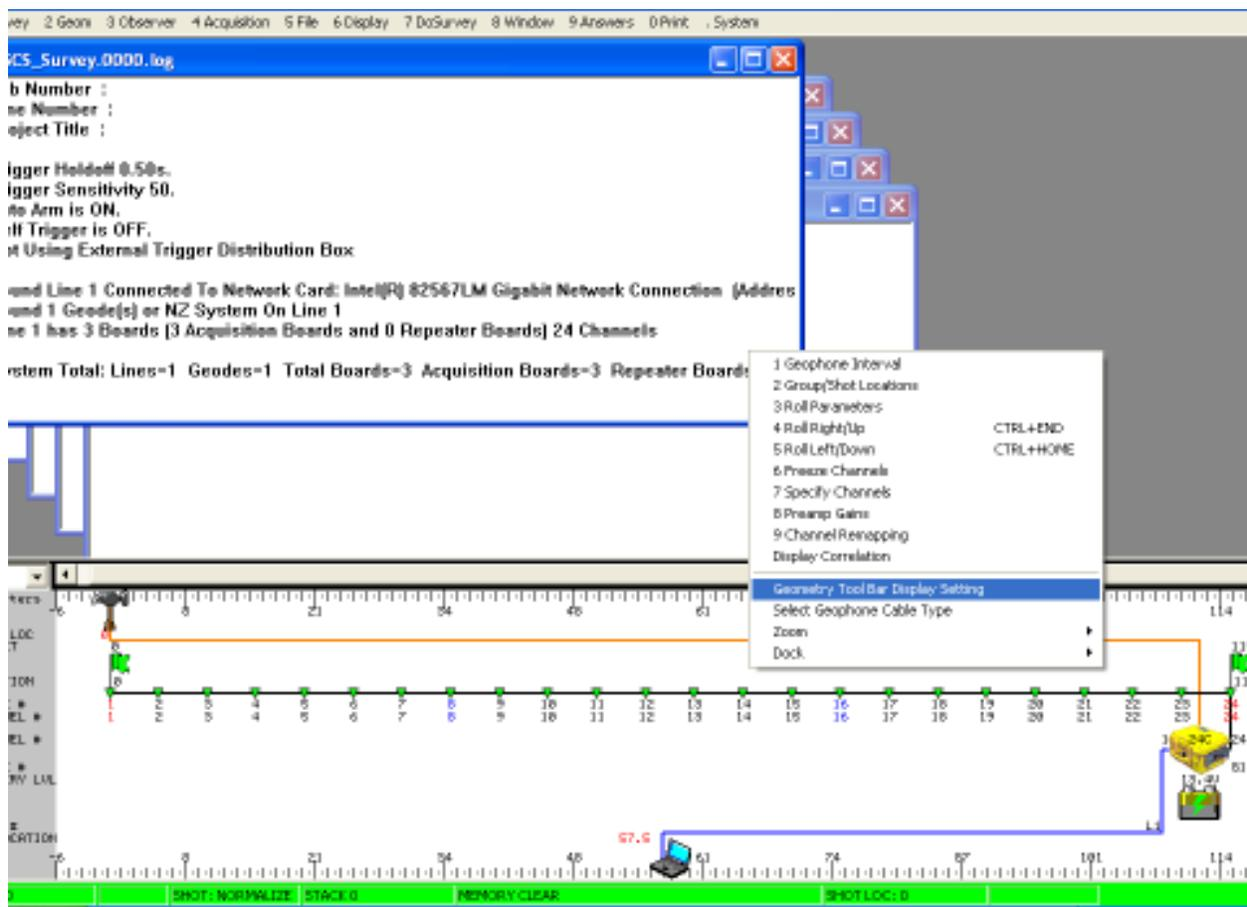

Figure 3 Selecting Display Settings
1. Right click on the Geometry toolbar at the bottom and select Display settings (see Figure 3)
Tips: Default setting has Geophone-1/channel-1 starting at the pigtail end of the cable. I prefer to reverse the order and have channel-1 starting at the first Geode location. To reverse the channel sequence, select the Channel Remapping option in the Geometry Toolbar Settings shown in Figure 3. Check the Enable Channel Remapping box and also check the Reverse Channel Order box up top. Don't forget your Hot Keys. They are an easy and powerful way to navigate complicated software. Ideally, once you are set up you should be able to run the entire survey using only 4 Hot Keys. When working on a field course survey with students, for example, you may have some false trigger or bad hammer swings. In this case it might be useful to turn off the Auto Save and use the Hot Keys to save and erase only the known good data files/hammer strikes.